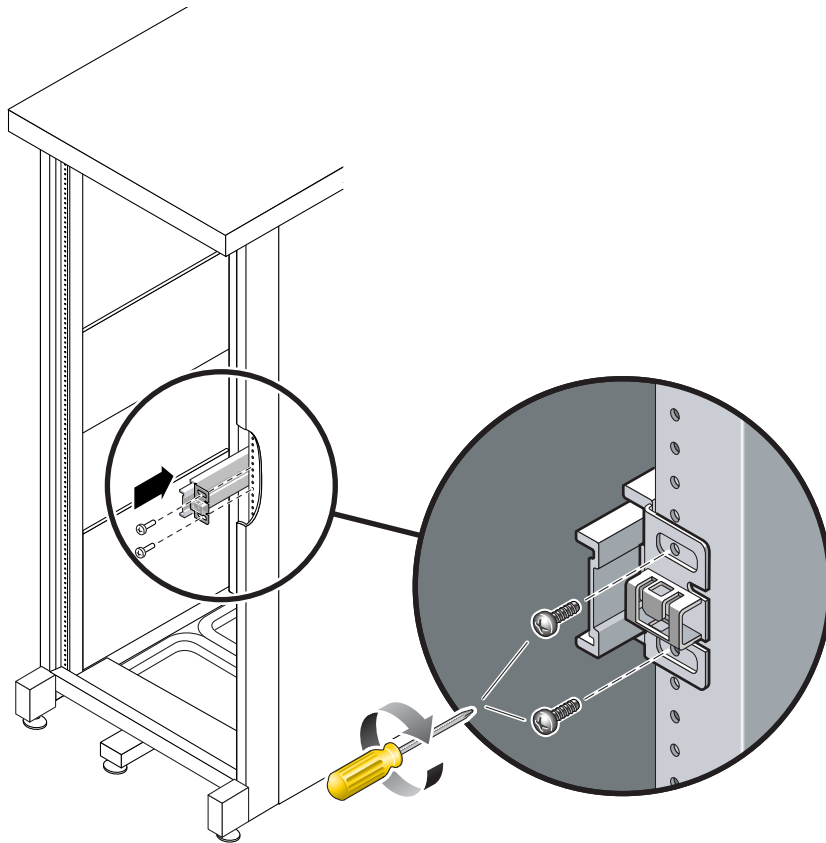

FIGURE 2-15 Mounting a Slide Rail
- a. Loosely attach the front of a slide rail to the right front rack post (FIGURE 2-15) using two screws.**